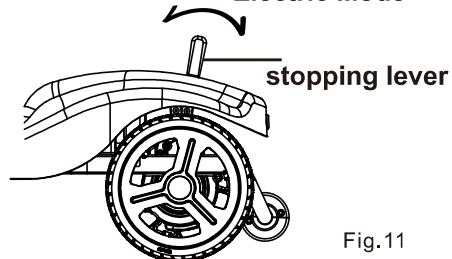

Fig.11
- For your convenience in operating the mobility scooter, a vehicle-motor separation stopping lever is designed at the lower right of the rear of the scooter (Figure 11). It allows you to switch the mobility scooter to manual push mode in case of malfunction, so you can directly push the mobility scooter without relying on the drive motor.